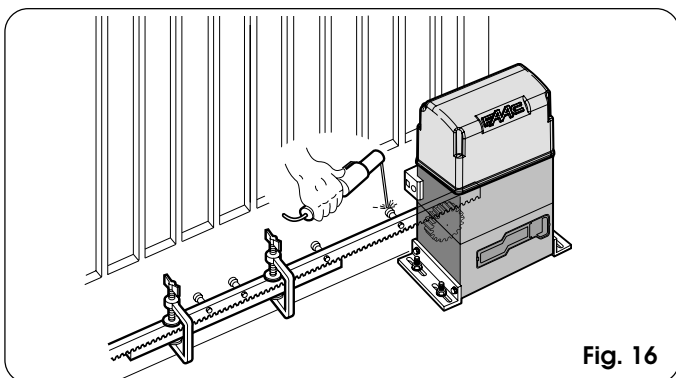

Fig. 16
- 5) Bring another rack element near to the previous one, using a piece of rack (as shown in figure 16) to synchronise the teeth of the two elements.